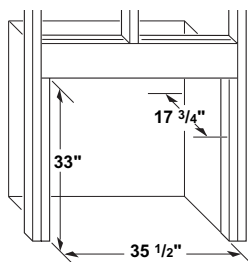
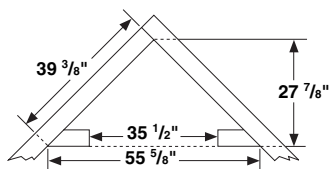

Figure 24 - Rough Opening for Installing in Wall
Figure 25 - Rough Opening for Installing in Corner
1. Frame in rough opening. Use dimensions shown in Figure 24 for the rough opening. If installing in a corner, use dimensions shown in Figure 25 for the rough opening. The height is 33" which is the same as the wall opening above.